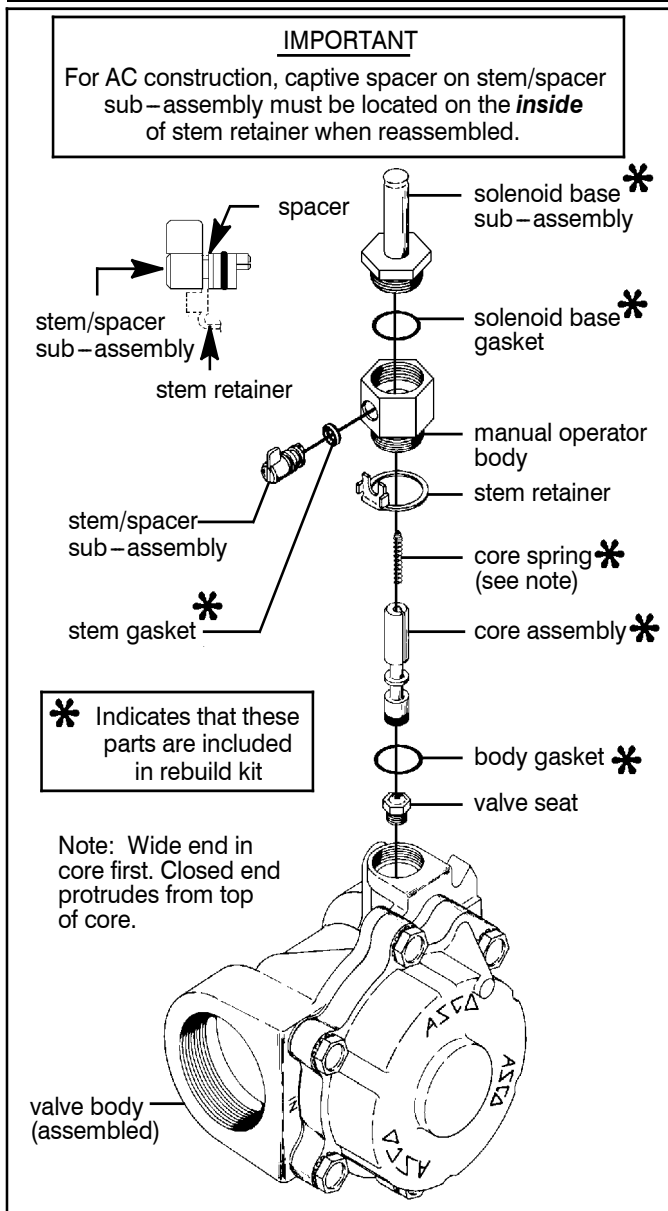
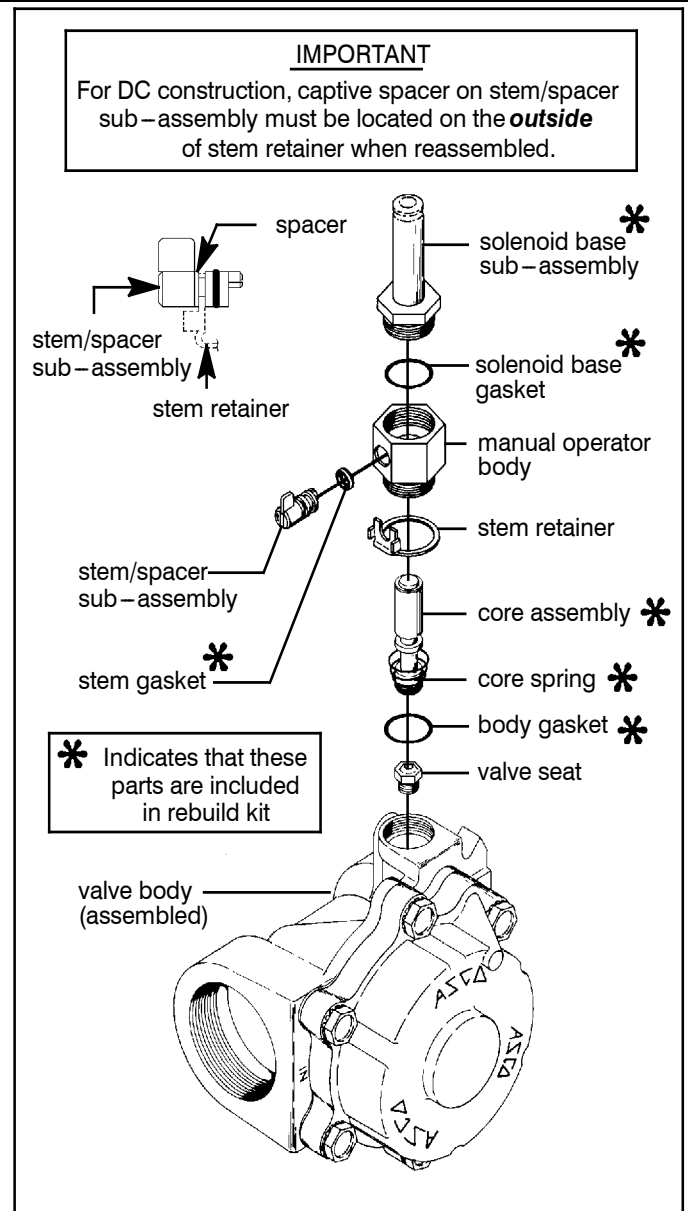

Figure 1. Manual Operator Assembly, AC Construction.
Figure 2. Manual Operator Assembly, DC Construction.
2. For AC construction refer to Figure 1 on page 3; DC construction Figure 2 on page 3.